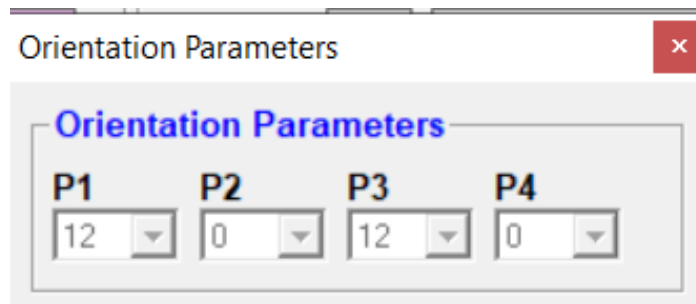

Figure 11: Orientation Parameters Window
9. The orientation parameters should be set to **12/0/12/0**. Go to **Settings: Anisotropy Settings: Orientation Parameters** to check the orientation parameters and to modify them if needed (Figure 11).